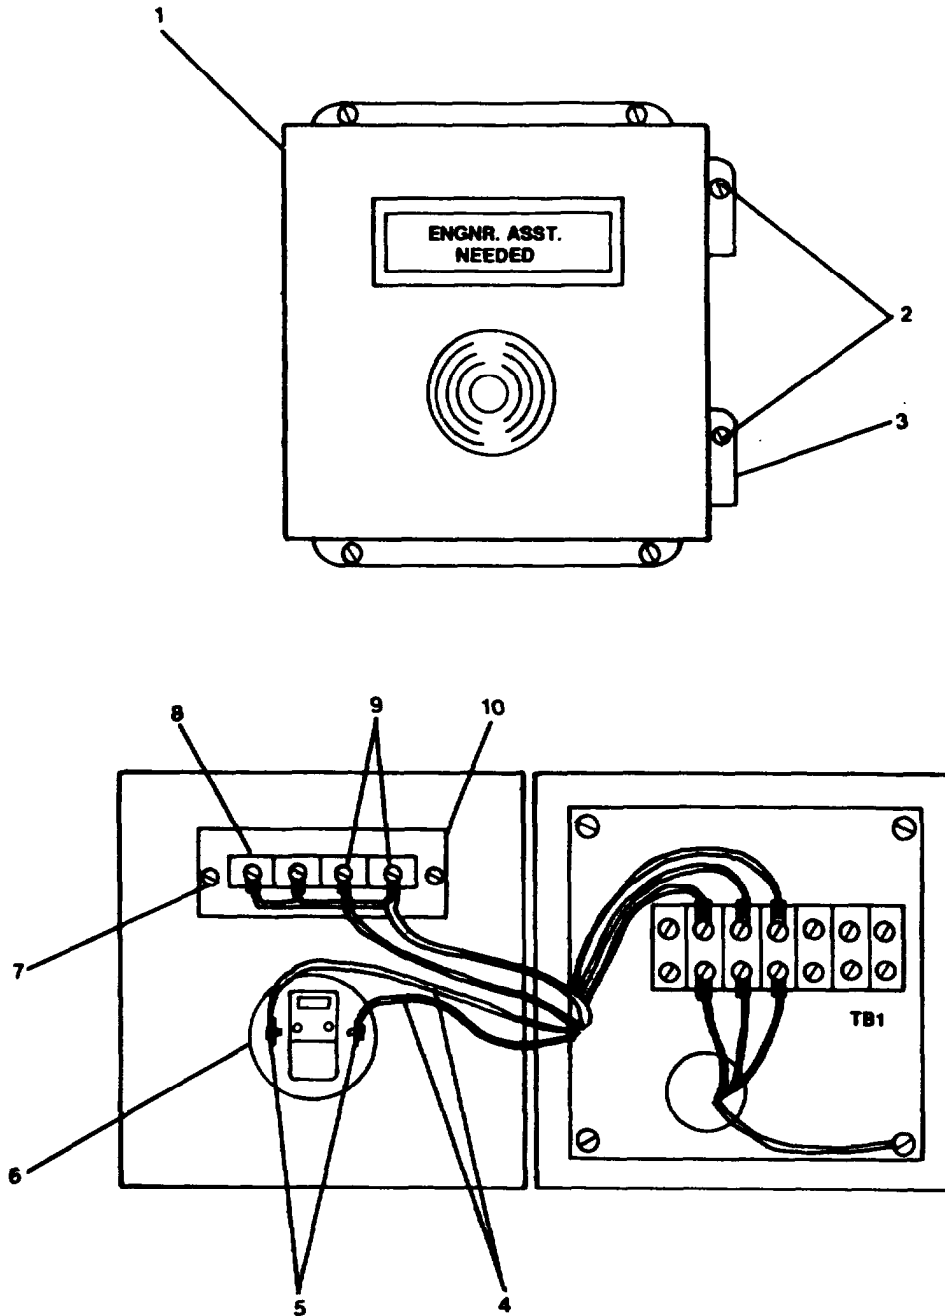

FIGURE 2-117. Annunciator (Engineer's Quarters and Galley)
- a. Install pressure switch (10).
- b. Install liquid level switch (9).
- c. Install pressure switch (8).
- d. Install liquid level switch (7).
- e. Install solid state switch (6).
- f. Install liquid level switch (5).
- h. Close cover (2) on enclosure (3) and tighten captive screws (1).
**2-131. Repair Annunciator (Engineer's Quarters and Galley). (FIGURE 2-117)**